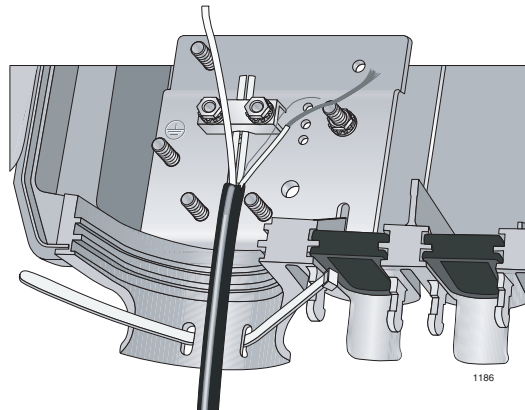

Figure 9. Positioning the Cable
11. Position the cable so that the strength members go under the strength member clamp, the jacket is about .25 in. beyond the drop cable clamp posts, and the buffer tube is free, as shown in Figure 9.